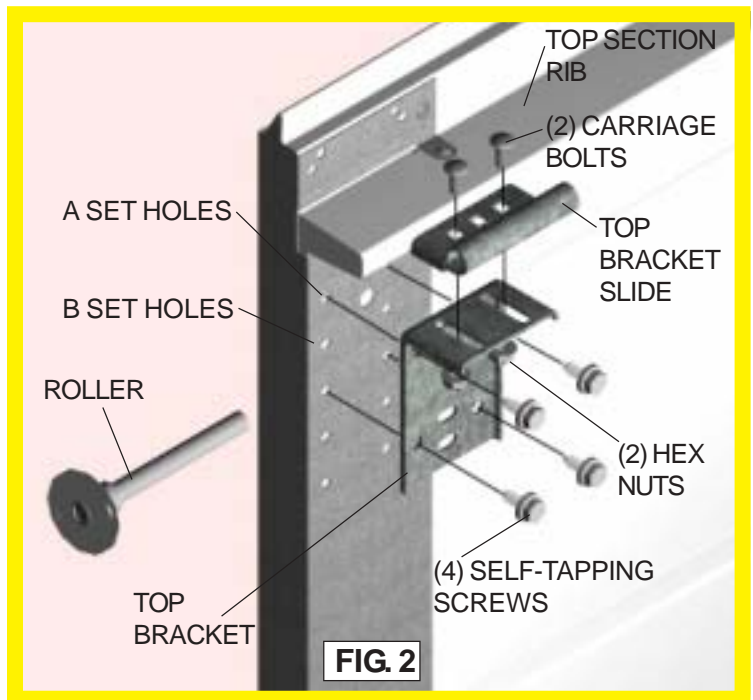

FIG. 2
Secure top bracket to endcap, using (4) 1/4-20 x 5/8" self tapping screws. See chart below for correct top bracket placement. Secure the top bracket slide to the top bracket using (2) 1/4-20 x 5/8" carriage bolts and nuts. Insert rollers. (see Fig. 2)